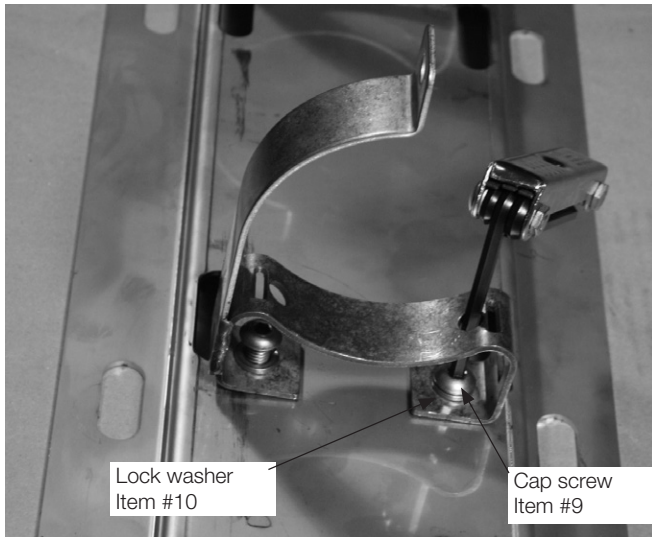

Figure 17. Bolted clamp base bracket
2. Attach the base bracket (Item 8) to the base (Item 1 or 2) with a hex-head wrench using 3/8-16 X 1" cap screws and 3/8" lock washers (Items 9 and 10). See Figure 17.